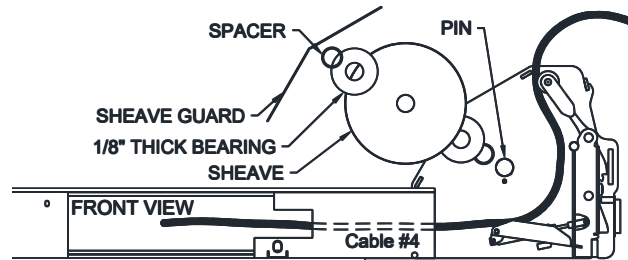

Fig 8 - Cable #4 Routing
- 7) Starting from the rear of the lift. Identify **Cable #4** using **Fig 4**. Route **Cable #4** from the left single stack through the access hole and up out the end of the crossbeam as shown in **Fig 8**.
- 13) Reinstall the crossbeam sheave for **Cable #3** and **Cable #4**. Slide the sheave pin through the hole, slide one sheave spacer onto the pin followed by one 1/8" plastic bearing washer, and the sheave. Set the cable into the Sheave channel and proceed to adding a 1/8" plastic washer and sheave spacer to the pin. Install the 5/16 x 3/4 bolt to retain the sheave. Reinstall the sheave guards. See Fig 8 & 13.
- 32) Route **Cable #1** through the access hole and up and out the end of the Front Crossbeam in the same way **Cable #4** as shown in **Fig 8**
- 34) Reinstall the crossbeam sheave for **Cable #1 and Cable #4**. Slide the sheave pin through the hole, slide one sheave spacer onto the pin followed by one 1/8" plastic bearing washer, and the sheave. Set the cable into the Sheave channel and proceed to adding a 1/8" plastic washer and sheave spacer to the pin. Install the 5/16 x 3/4 bolt to retain the sheave. Reinstall the sheave guards. See **Fig 8 & 13**.
- 45) Reinstall the crossbeam sheave for **Cable #2**. Slide the sheave pin through the hole, slide one sheave spacer onto the pin followed by one 1/8" plastic bearing washer, and the sheave. Set the cable into the Sheave channel and proceed to adding a 1/8" plastic washer and sheave spacer to the pin. Install the 5/16 x 3/4 bolt to retain the pin. Reinstall the sheave guards. See **Fig 8 & 13**.